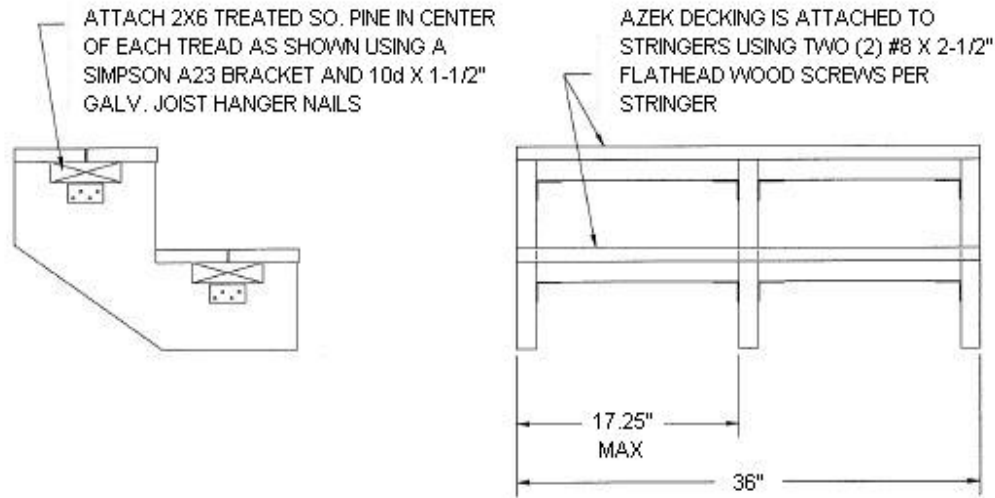

Figure 6 – Alternate 1 X 5-½ Stair Tread Installation for 17.25\" Span (2X6 additional support)
17.25"	2X6 additional supports. See Figure 6 for installation details.